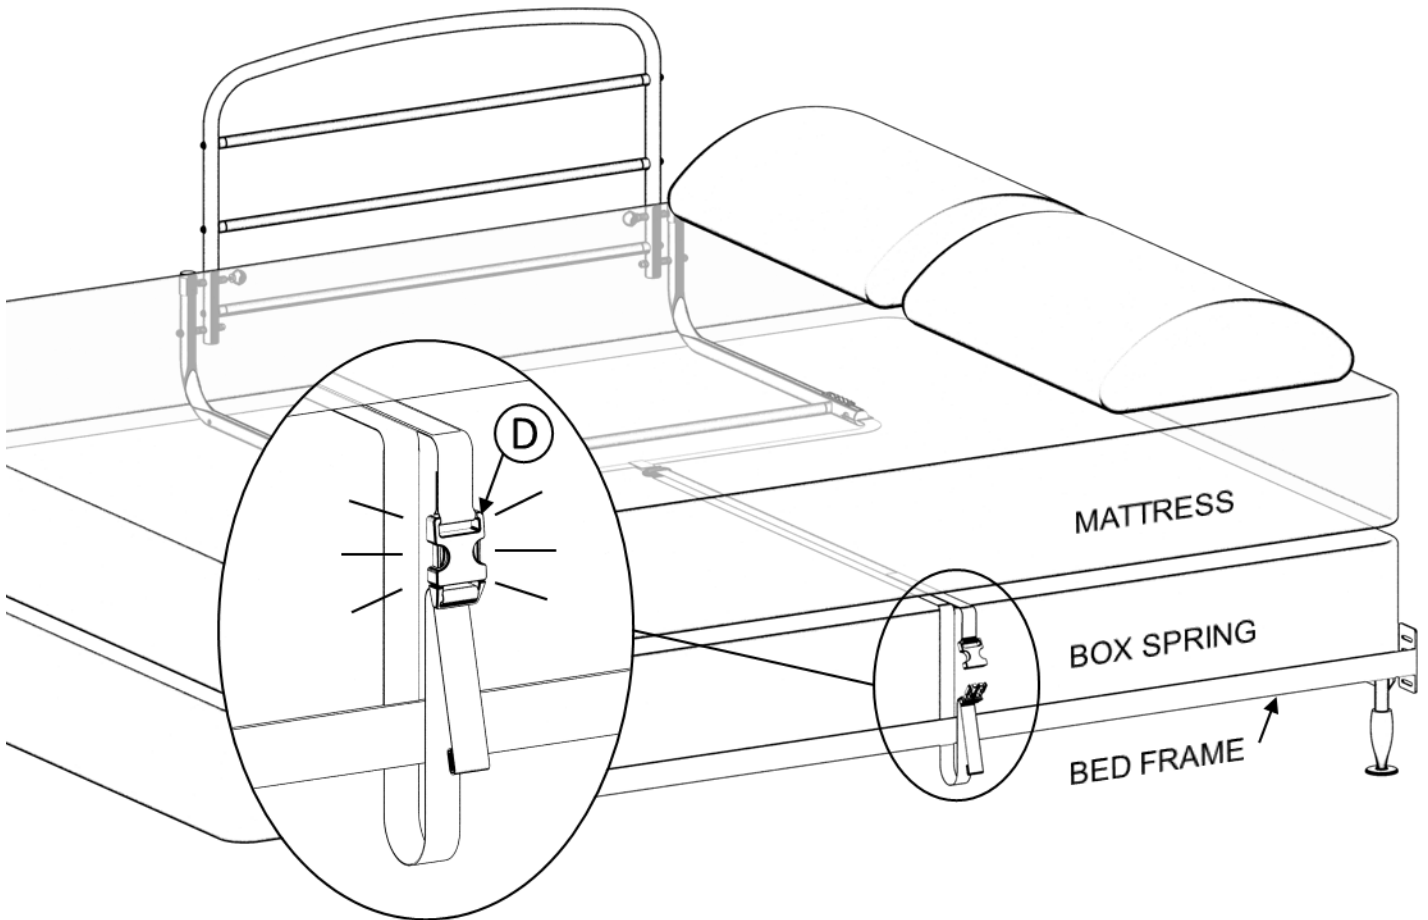

FIGURE 4
4. Place product legs directly under **MATTRESS** and extend both straps below mattress to the opposite side of bed. Unbuckle strap and wrap one end between the mattress and **BED FRAME** (or board) and re-buckle strap, as shown in *FIGURE 4*.